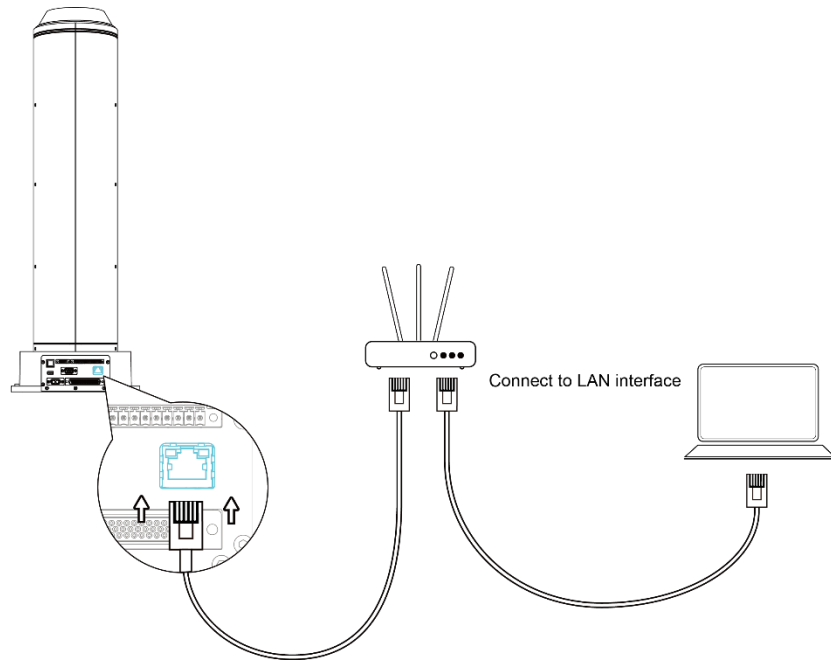

Figure 5.16 Connect via router
Step 2 Connect the other end of the network cable to the router which also connects the PC, as shown in Figure 5.16.